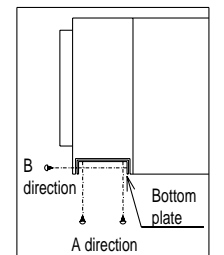

Fig.4
- It is necessary if using filter box PAC-KE63-80-140TB-F (using filter: high-performance filter), change the position (up/down) of the retainer plate. Refer to [● Procedure for mounting the filter from the side (1), (2)].
- Remove the bottom plate screws (refer to drawing below) on the filter box. (Fig. 4)